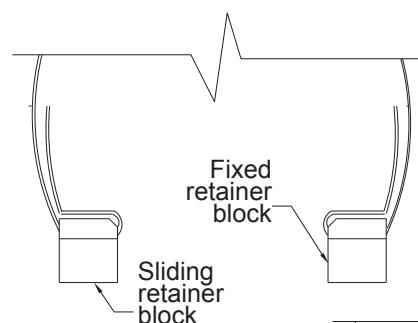

Figure 3
**Step 5:** Bend the strap at both retainer blocks, near the non-beveled ends to allow the carriage bolt to easily pass through the retainer blocks (Figure 3 and 4).